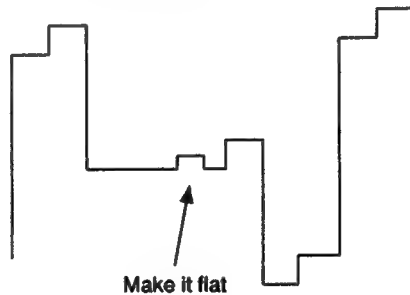

Fig. 5-21
- 2) Adjust **PHASE NTSC 443 ACC OFF** in the same way as 10-7-5). (Fig.5-21)